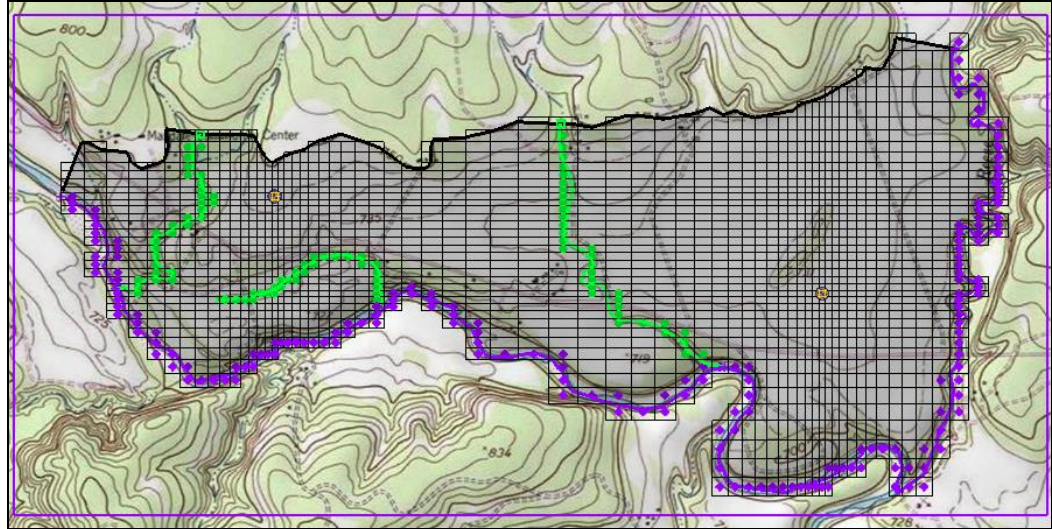

Figure 11 After the conceptual model is converted to MODFLOW
2. Select *All applicable coverages* and click **OK** to close the *Map → Model* dialog. The Graphics Window should appear as in Figure 11.